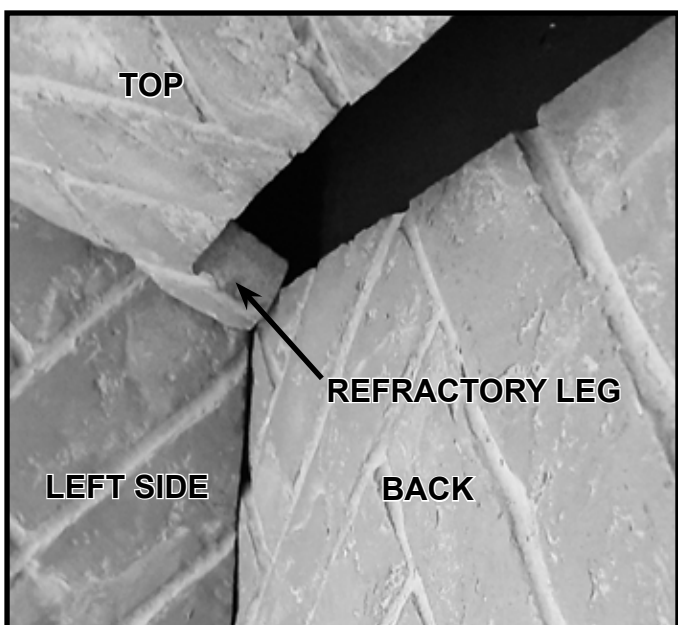

Figure 11.6 Top Refractory Panel Installed
**Note:** The “leg” on the top refractory will contact the rear refractory panel as shown in Figure 11.6.